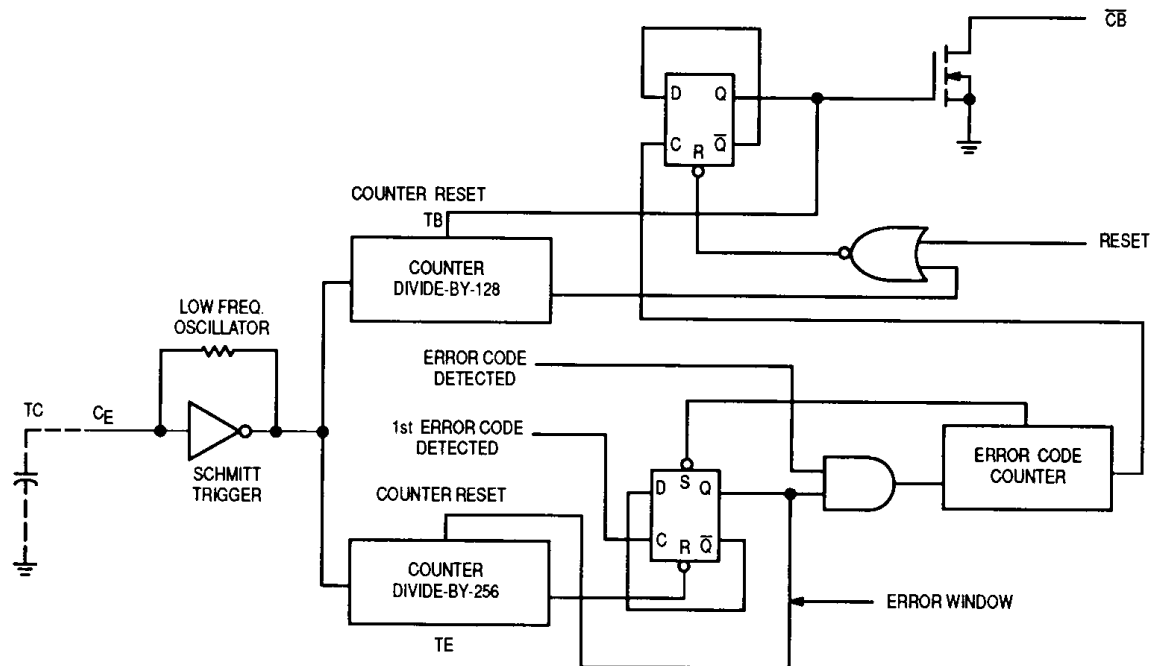

Figure 8. Error Window TE and Code Break Window Generator TB
If only one error code is detected within the window, the window period is automatically extended from the last invalid word to check if there are two or more error codes. If so, the code break signal is activated; if not, TE is closed after a defined period. See Figures 8 and 11.
TE and TB are generated from a schmitt-trigger low frequency oscillator of which the period (TC) is controlled by the timing capacitor CE. The period of this low frequency oscillator is defined as TC as indicated in Figure 8.